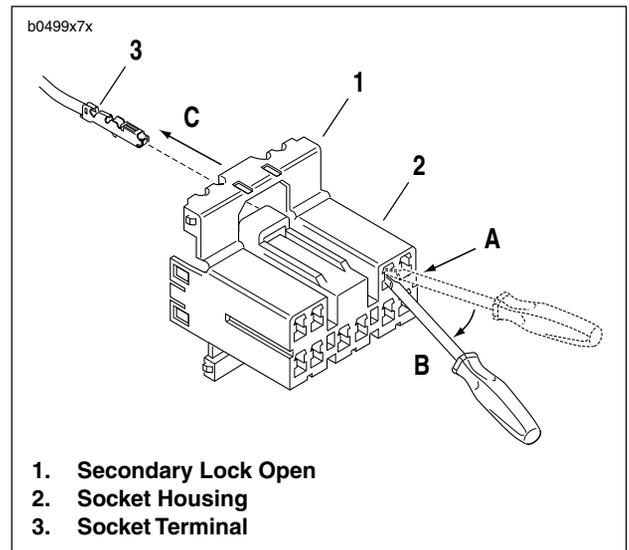
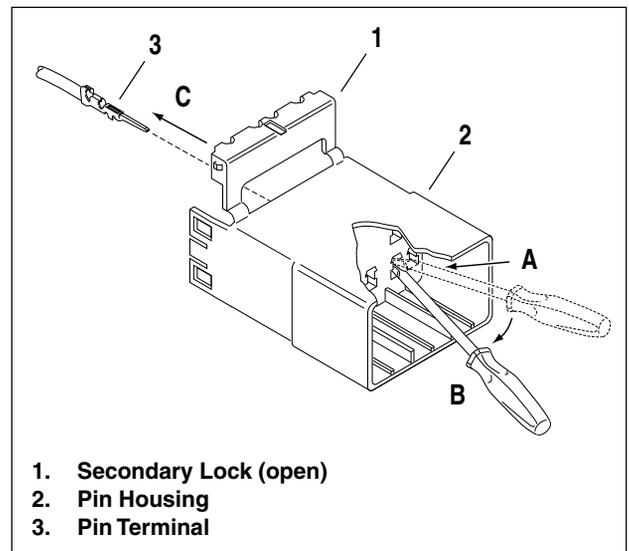

Figure 7-79. Socket Terminals
Figure 7-80. Pin Terminals
7. Remove socket terminal (Figure 7-79) or pin terminal (Figure 7-80).
- a. If installing socket terminals, see Figure 7-79.
- b. If installing pin terminals, see Figure 7-80.